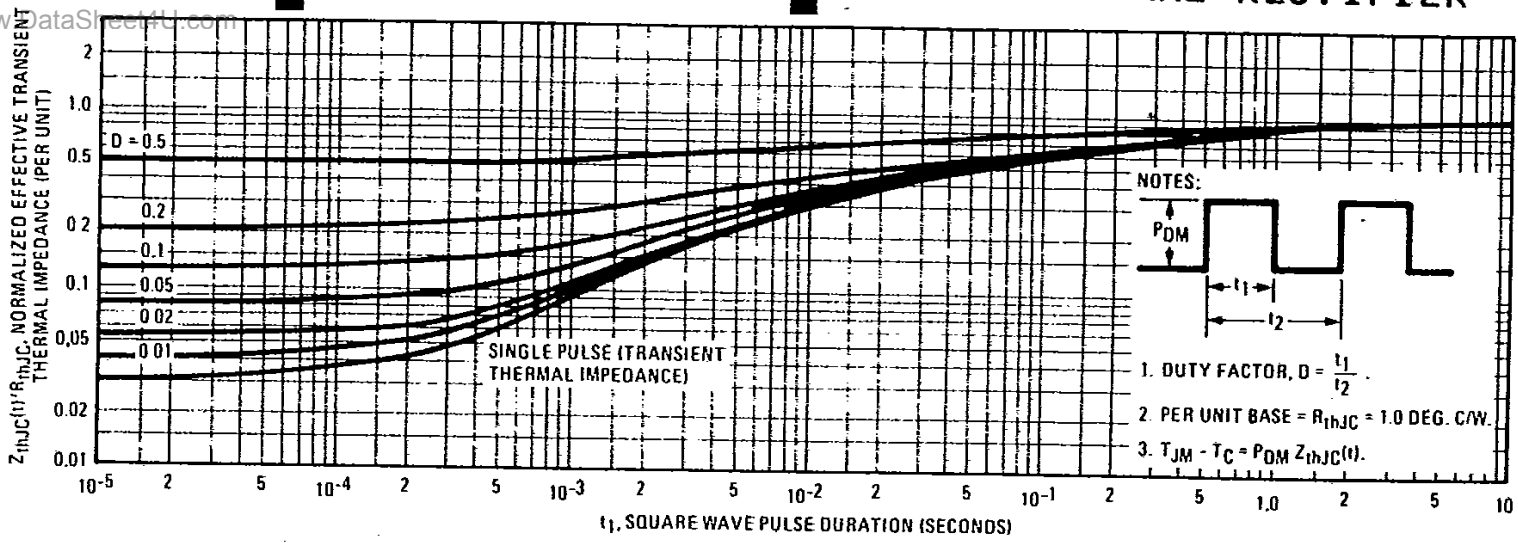

Fig. 5 – Maximum Effective Transient Thermal Impedance, Junction-to-Case Vs. Pulse Duration
①  $T_J = 25^\circ\text{C}$  to  $150^\circ\text{C}$ . ② Pulse Test: Pulse width  $\leq 300\mu\text{s}$ , Duty Cycle  $\leq 2\%$ .
③ Repetitive Rating: Pulse width limited by max. junction temperature. See Transient Thermal Impedance Curve (Fig. 5).
④  $K/W = ^\circ\text{C}/\text{W}$